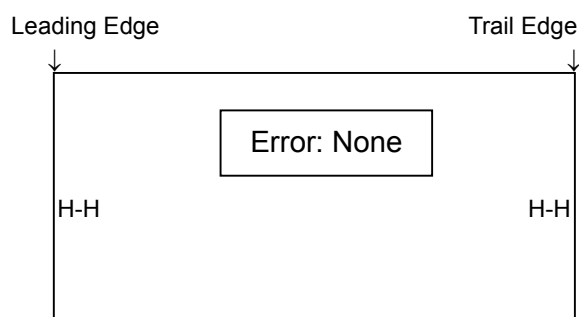

Figure 5-222
- 4) Check the printed position. The situation shown in Figure 5-222 does not require correction.